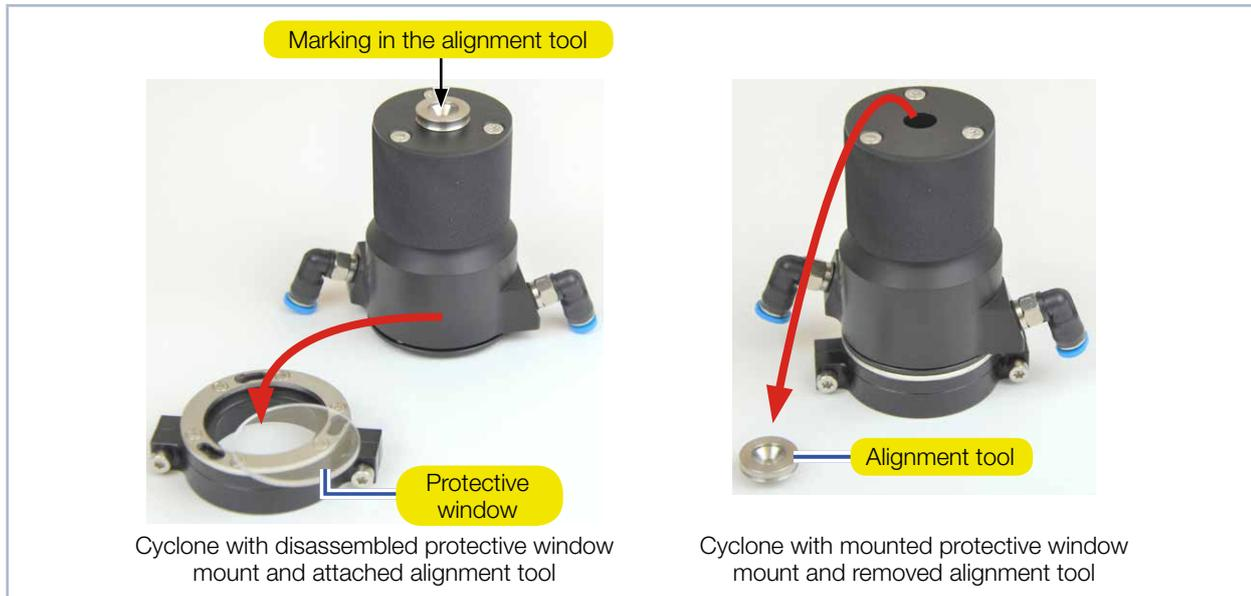

Fig. 8.4: Alignment tool for an optional cyclone (example: 3.3x measuring objective)
3. Place the appropriate alignment tool directly on the measuring objective (see Fig. 8.2), on the protective window mount (see Fig. 8.3) or on the cyclone (see Fig. 8.4).